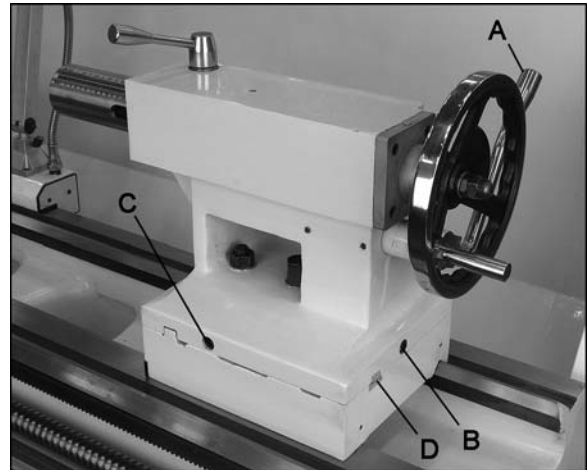

Figure 39 – Tailstock adjustments
The tailstock can be offset to cut shallow tapers up to 5° angle. See Figure 39.
If the clamping force needs to be adjusted, use the hex nut (E, Figure 39).
3. Align the tailstock using the off-set screws at front and back (see C, Figure 39) until the tailstock is aligned.